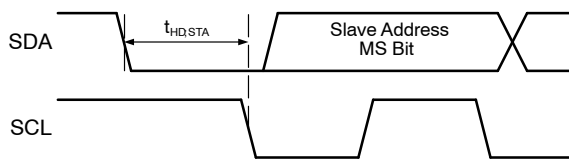

Figure 20. START Bit
Each bus transaction begins and ends with SDA and SCL HIGH. A transaction begins with a START condition, which is defined as SDA transitioning from 1 to 0 with SCL HIGH, as shown in Figure 20.
The protocols for High-Speed (HS), Low-Speed (LS), and Fast-Speed (FS) Modes are identical; except the bus speed for HS Mode is 3.4 MHz. HS Mode is entered when the bus master sends the HS master code 00001XXX after a START condition (Figure 20). The master code is sent in Fast or Fast-Plus Mode (less than 1 MHz clock); slaves do not ACK this transmission.
| S | START, see Figure 20 |